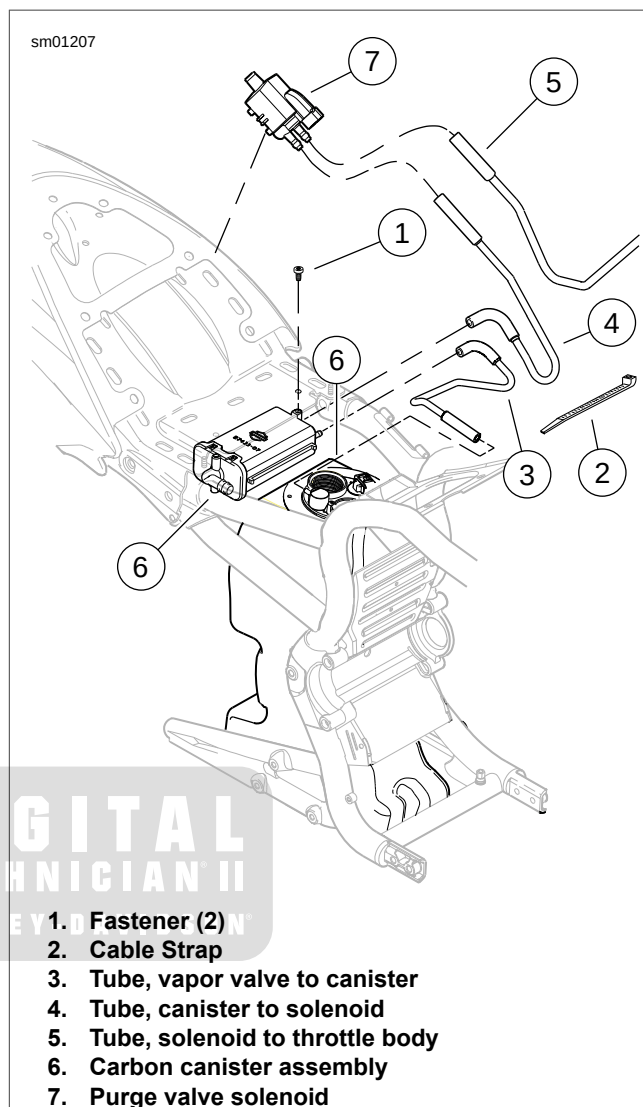

Figure 4-36. Evaporative Emissions Control System
2. See Figure 4-36. Press tab on side of electrical caddy and slide purge solenoid (7) free from electrical caddy.
4. Gently pull off the carbon canister to purge solenoid tube (4).
5. Gently pull off the purge solenoid to throttle body tube (5).
1. See Figure 4-36. Note tube connections. Gently pull tubes (3, 4, and 5) off carbon canister (6).
2. Remove fasteners (1) and slide carbon canister from under frame.
1. See Figure 4-36. Position **new** carbon canister under frame just in front of electrical caddy and install fasteners and tighten.
- a. See Figure 4-36. Attach the purge solenoid to throttle body tube (5) to the throttle body.
- b. Route purge solenoid to throttle body tube (5) under frame tube to purge solenoid (7). Secure with cable straps.
- c. Attach canister to purge solenoid tube (4) to purge solenoid.
- d. Route canister to purge solenoid tube (4) to the carbon canister (6). Attach tube to the fitting marked CARB (1) on left side of canister. Secure with cable straps.
- a. Route fuel tank vent tube (3) as shown.
- b. Attach short segment of tube to the bottom or short end of the vapor valve and to the fitting marked TANK on carbon canister (6).